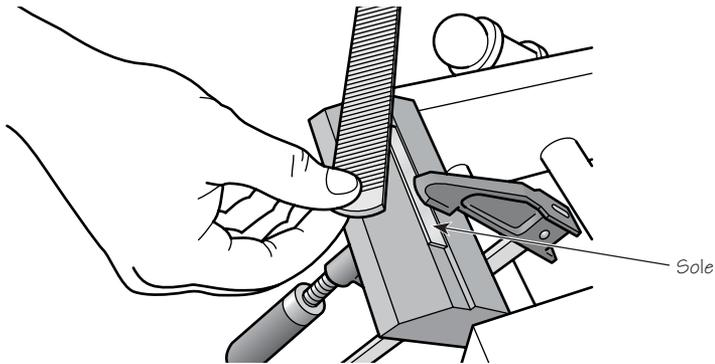

**Figure 13: Bevel the recess for the brass strip.**
- With a knife, extend the lines from the side of the ware forward on the stock, over the area that was planed to an angle. This will mark the location of the brass sole edges. Score a horizontal line  $\frac{1}{16}$ " up from the bottom of the spokeshave on the front side, then pare the area within the two lines that mark the edges of the brass sole. **Be careful to maintain the sole angle.** Chisel a  $10^\circ$  undercut on both ends of the recess, as shown in **Figure 13**, guiding the cut with a sliding bevel set to  $10^\circ$  held against the stock, or with the angle block described in *step 12*.